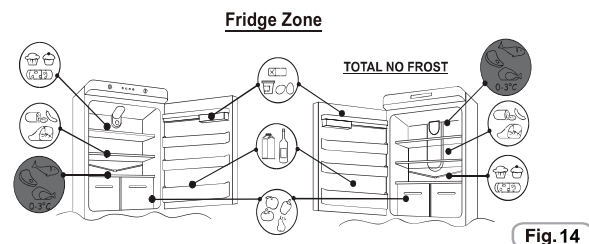
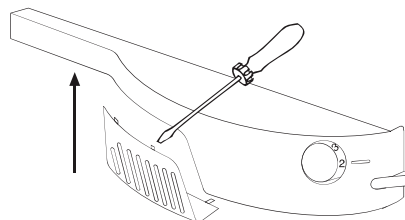

Fig. 14
Fig.21
- To maintain the best flavour, nourishment and freshness of foods, it is advisable to store them in the refrigerator compartment as shown in fig.14 below, making sure to wrap them in aluminium or plastic sheets or in appropriate covered containers to avoid cross-contamination.
To replace the lamp bulb, place the thermostat knob on 0 and disconnect the power cord. Remove the protective cover (fig. 14), replace the bulb with a power rating analogous with that indicated on the protective cover.(Fig.21)